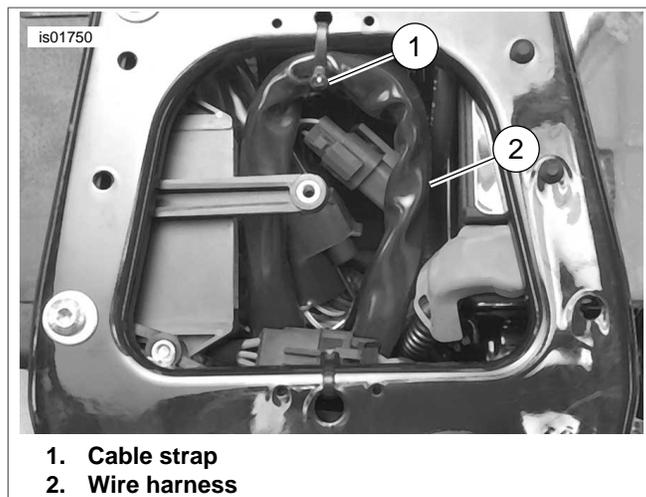
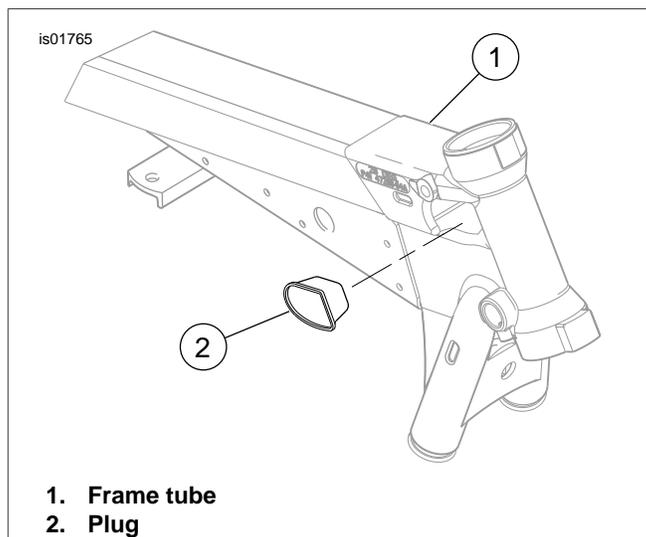

Figure 17. Dyna Service Loop (2005-Earlier)
Figure 18. Dyna Top Frame Tube (2005-Earlier)
1. See Figure 17 and Figure 18. Remove plug on right side of top frame tube. At service loop, remove cable strap and push wire harness into top frame tube. Pull front turn signal connector out from hole on right side of tube.